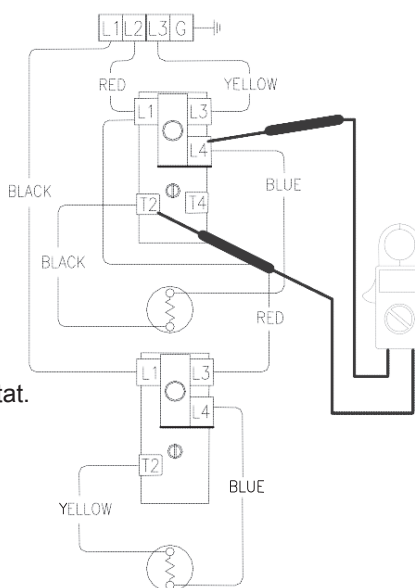

Figure 47
5. Check across terminals L4 and T2 of upper thermostat (see Figure 47).